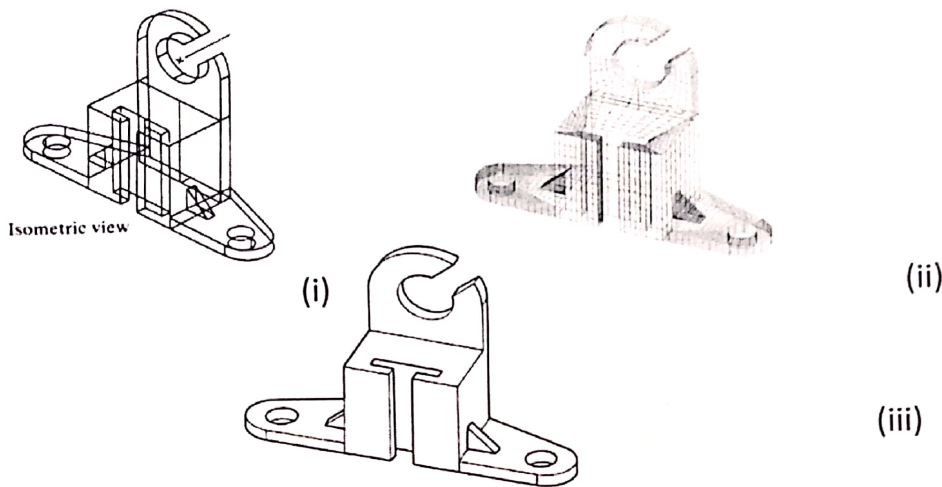

Figure Q6b: Geometric Modeling Techniques
- b. Differentiate between the different geometric modeling techniques depicted in Figure Q6b